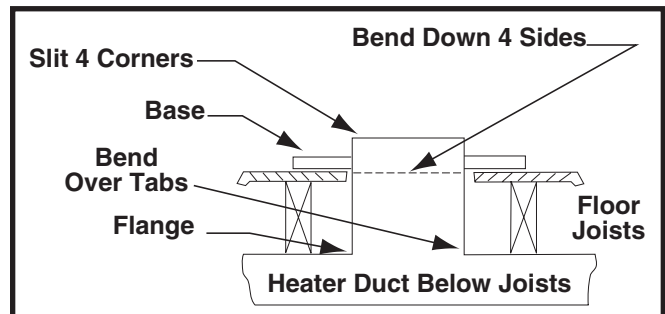

Figure 5. Transition Duct
5. Drop transition duct (Figure 5) upside down through the floor opening and center the top of the feeder duct in 14-1/8" x 14-1/8" floor opening. Using the feeder duct as a guide, mark and cut a 12" x 12" opening in the supply duct.
5. Set the universal base in place. Drop transition duct (Figure 5) upside down through the floor opening and center the top of the feeder duct in 14-1/8" x 14-1/8" floor opening.